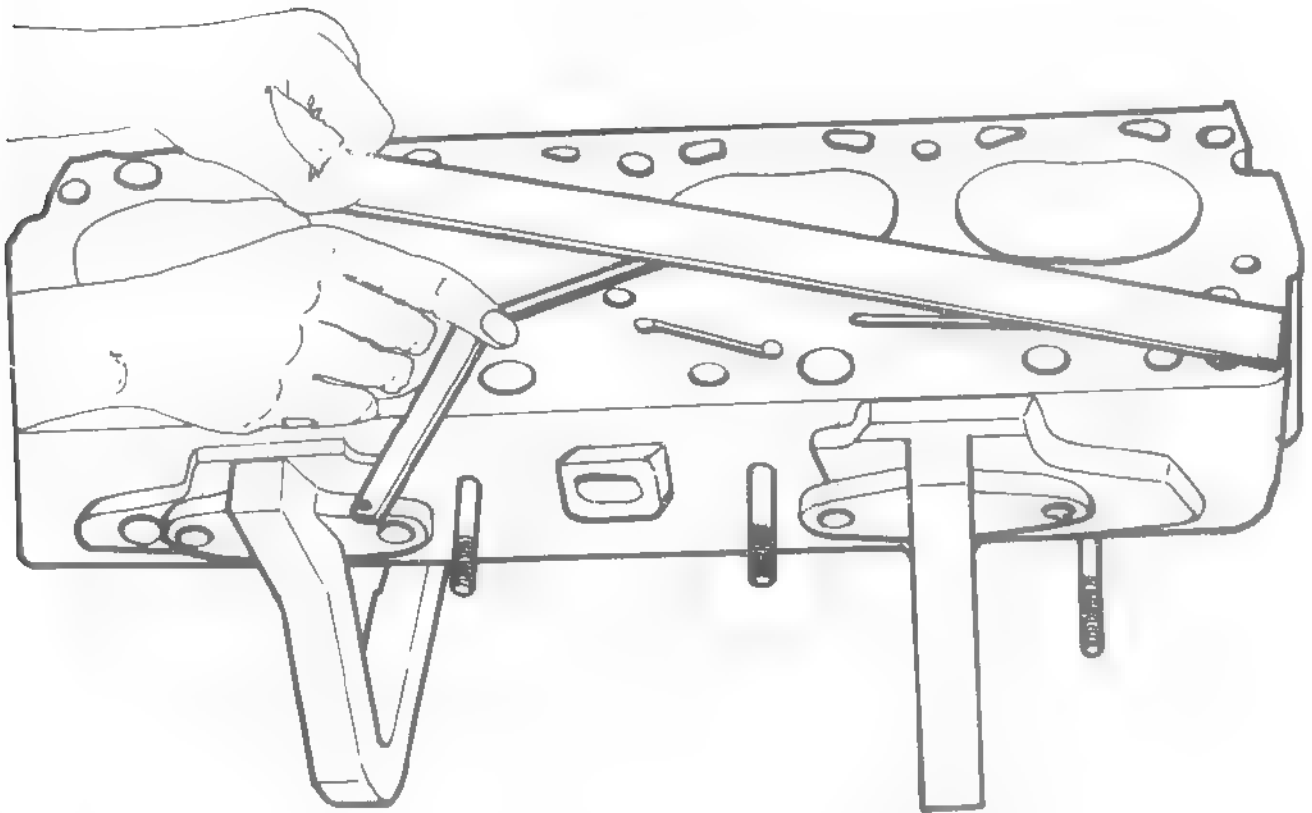

Fig. 4. 17. CHECING FLATNESS OF CYLINDER HEAD
- Check flatness of cylinder head by means of a metallic rule and a feeler gauges set, so as it is shown in the fig. 4. 17: